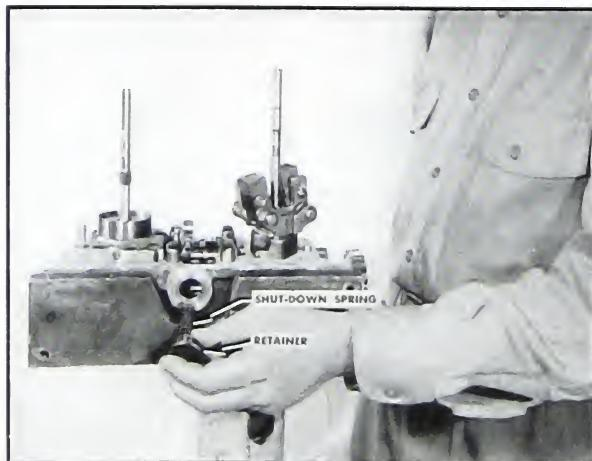

Fig. 5-332. Insert shut-down spring and retainer
4. Use a new gasket and assemble the shutdown spring retainer, spring and cap to the lower housing. Fig. 5-332.